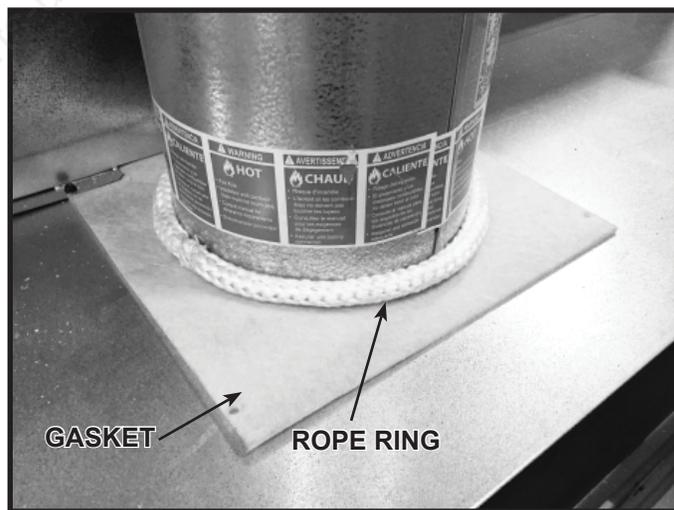

Figure 6.2 Fiberglass Rope Ring Installed
4. Place the fiberglass rope ring over the gasket. Ensure both the gasket and the rope ring are seated on the top of the appliance. See Figure 6.2.